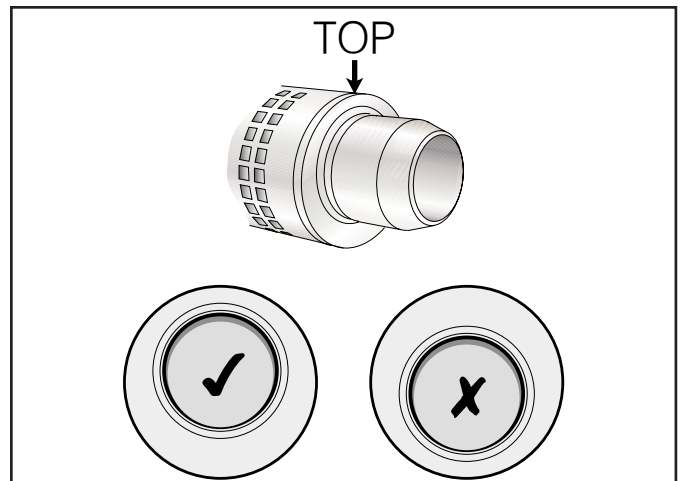

Figure 13-16: Correct position of flue terminal
**Hybrid boiler unit outside building** – Fit the terminal section in through the opening in the end of the Hybrid boiler unit (above the burner). Engage onto boiler connector section. See Figures 13-12 and 13-14. From outside Hybrid boiler unit, rotate terminal section to position 'TOP' label uppermost . See Figure 13-16.
From outside building, rotate terminal section to position 'TOP' label uppermost . See Figure 13-16.